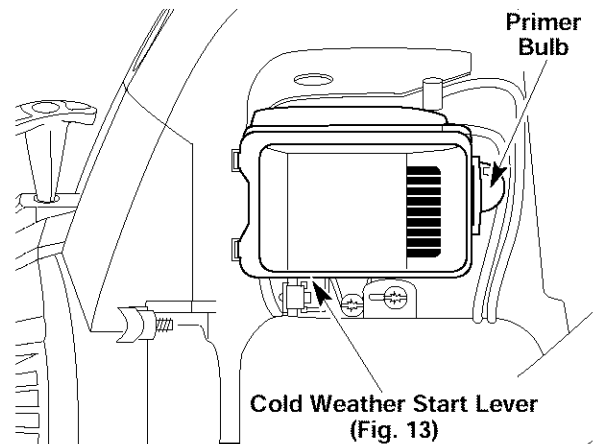

Fig. 11
3. Fully press and release the primer bulb 10 times, slowly. Some amount of **fuel should be visible in the primer bulb** and fuel lines (Fig. 11). If you can't see fuel in the bulb, press and release the bulb as many times as it takes before you can see fuel in it.